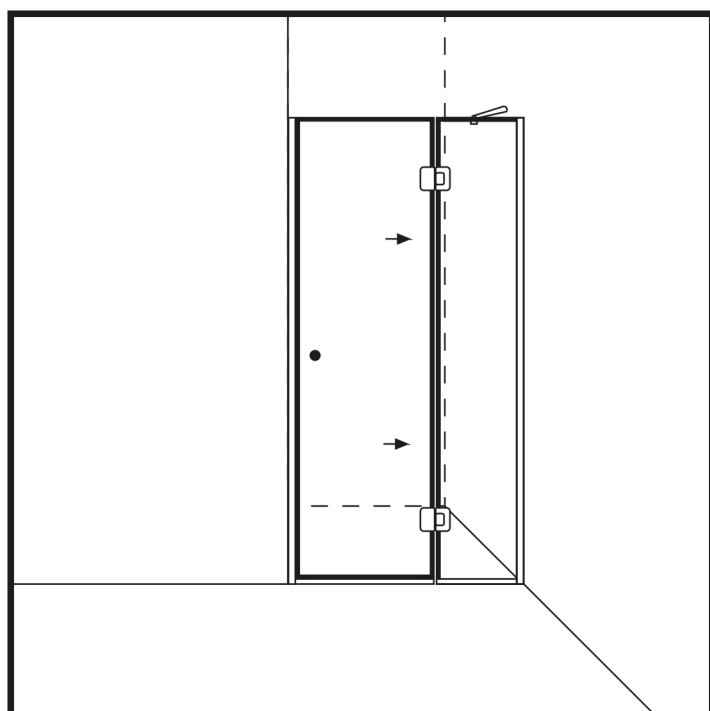

Figure 13
33. Install the brush seal included in the kit on the bottom edge of the glass. Install the longer magnetic seal on the outer vertical side of the door glass. The seal is intended for the side between the door glass and the hinges of the stationary glass, cut pieces of it to the correct lengths and install them. (Figure 13)